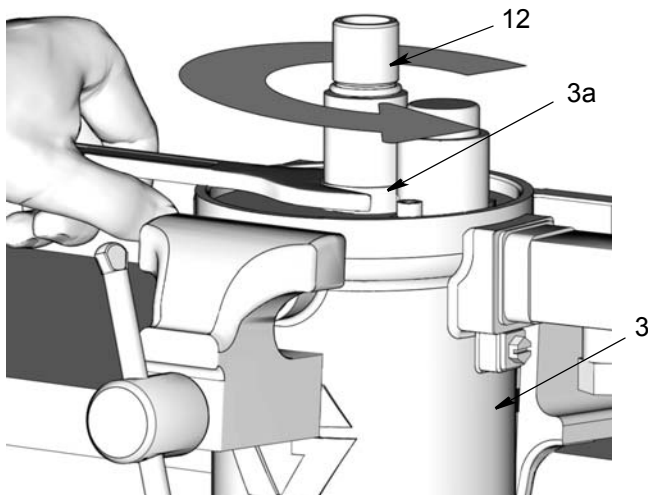

FIG. 17
13. Loosen nut (3a) and remove pump cylinder (12) from air motor cylinder (3) (FIG. 17).